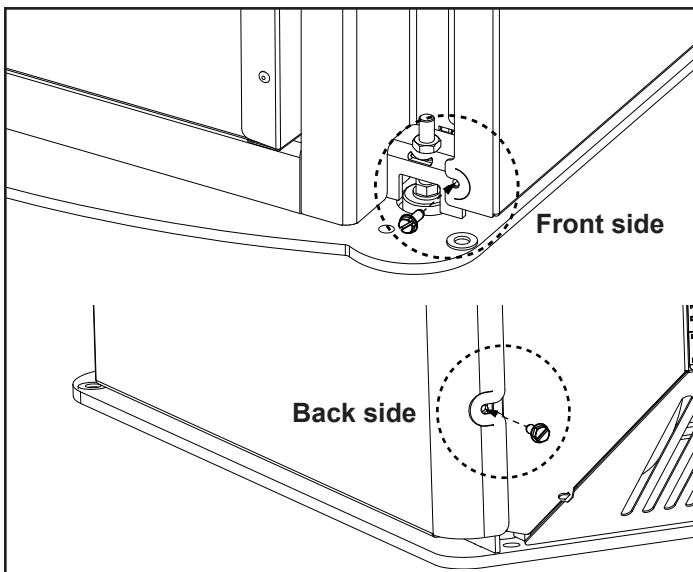

Figure 2
Step 2: Tighten the (4) 10-24 x 1/2" Thread cutting screw using a 5/16" nut driver, (2) Thread cutting screws per panel. Figure 2. **(Note: The door does not need to be removed to access screws.)**